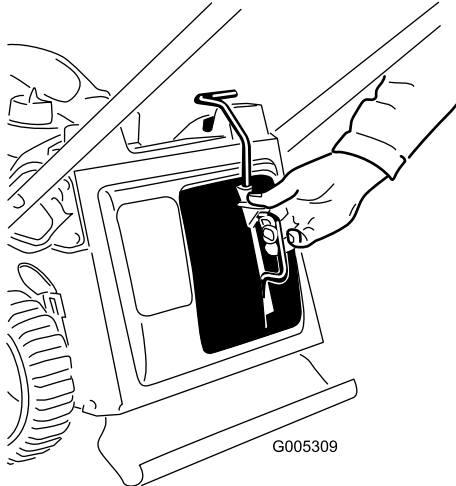
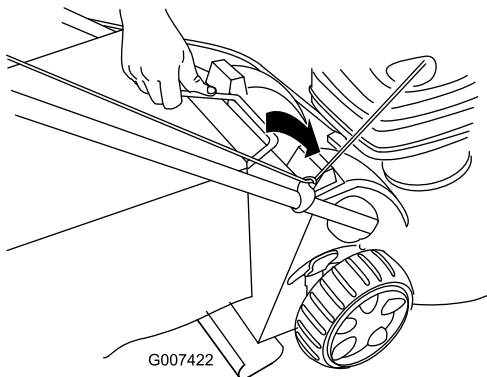

Figure 19
Figure 20
1. Install the mulch plug (Figure 19) or the grass bag (Figure 20) on the mower.